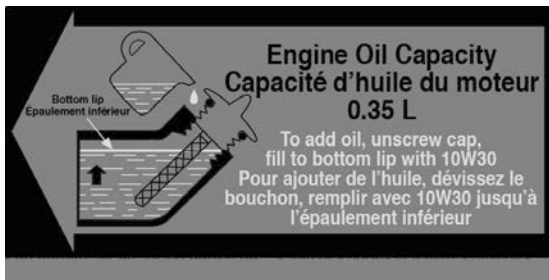

Figure 1B
- 4) If the oil level is halfway up the dipstick or below, refill with SAE 10W30 oil through the dipstick hole (using the supplied oil fill container) until the oil level reaches 3/4 up the dipstick or until it reaches the bottom lip of the dipstick hole as shown in illustration Fig.1B.